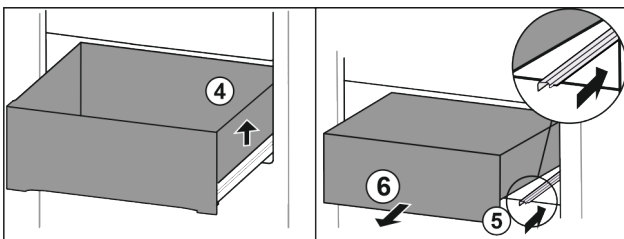

Fig. 24
- ▶ Lift drawer on the right. Fig. 24 (4)
- ▶ Insert right rail. Fig. 24 (5)
- ▶ Remove drawer to the front. Fig. 24 (6)